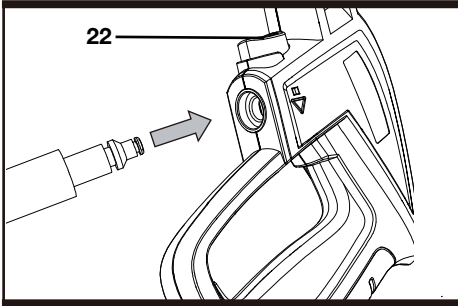

Fig.E2
22. Hose controlling button (See Fig. E2)